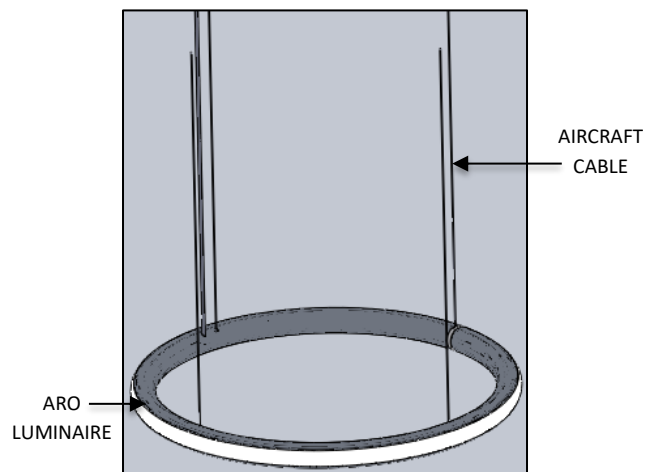

FIG. 2 - ARO LUMINAIRE
1. ARO LUMINAIRE. (Pre-assembled as shown in FIG. 2)